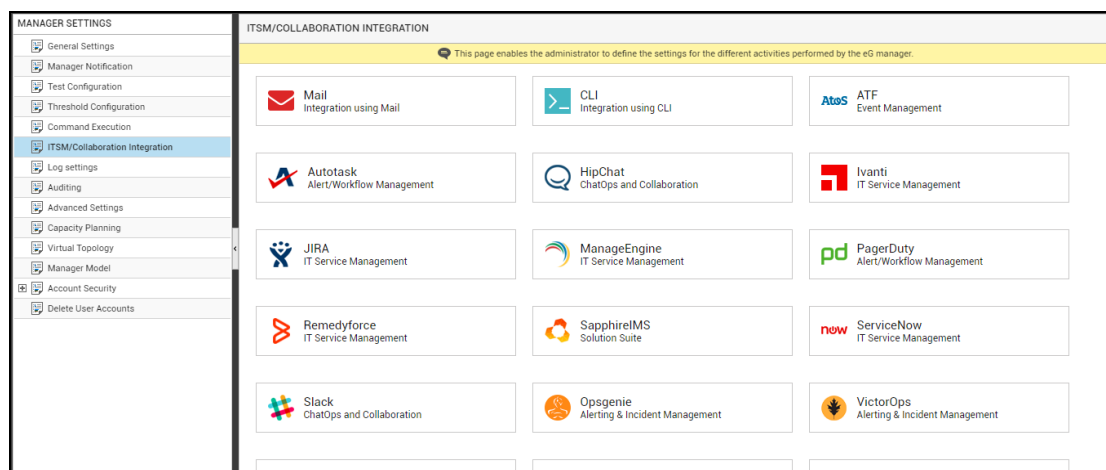

Figure 5.19: Viewing the ITSM/Collaboration tool options
3. Figure 5.19 will then appear. From the **MANAGER SETTINGS** tree in the left panel of Figure 5.19, select the **ITSM/Collaboration Integration** node. The third-party ITSM/Collaboration tools that eG Enterprise can integrate with will be listed in the right panel.
- Now, click on the **Ivanti** option in the right panel (see Figure 5.19). An **Ivanti** section will now appear in the right panel (see Figure 5.20).